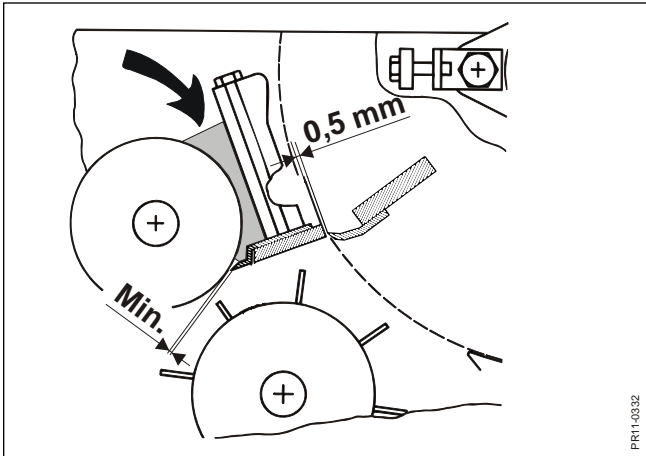

Fig. 4-5
**Fig. 4-5** Under some conditions the crop substance (small particles) can accumulate in the shaded area and this may result in an overloading of the transmission driving the rollers.